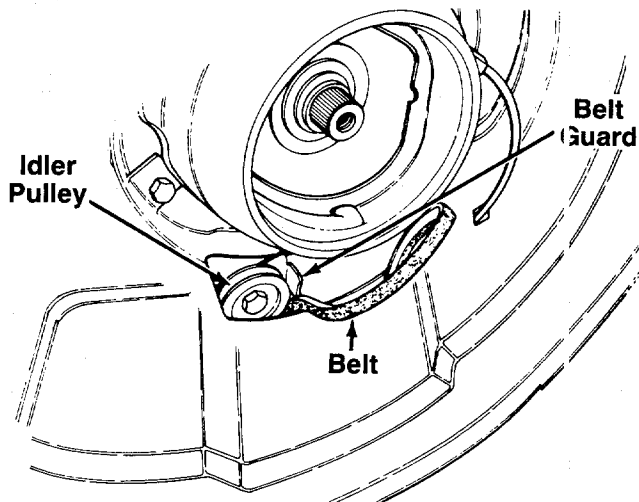

FIGURE 28.
9. Remove belt from the engine pulley half. Remove the belt from between the idler pulley and the belt guard on the idler pulley bracket. See figure 28.